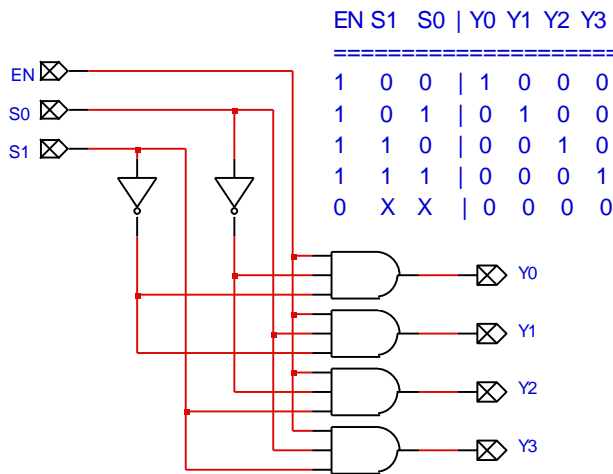

Figure 4. 2-to-4 decoder
A *decoder* is a switch used to “turn on” exactly one item out of a set. A decoder made from four 3-input AND-gates is shown in Figure 4. The input signals are an enable signal  $EN$  and two select lines,  $S0$  and  $S1$ . Since the enable signal is directly wired to all four AND gates, when  $EN=0$  the outputs are all inactive (0). On the other hand, when  $EN=1$ , the select lines are connected such that exactly one gate is chosen to be ON based on the value of  $S0$  and  $S1$ . For example, look at the AND gate connected to  $Y1$ . Its top input (like all the other gates) is connected to  $EN$ . The middle input is connected directly to  $S0$ , and the bottom input is connected to  $S1$  through an inverter. Thus,  $Y1 = \overline{S1} \bullet S0 \bullet EN$ . (The dots indicate logical AND function.). That is,  $Y1$  is active when  $(S1, S0) = (0, 1)$  (binary representation of the number 1) and  $EN$  is active. The remaining gates are connected in a similar fashion so that they are active when the appropriate number is put on the select lines  $S0, S1$ .
The decoder design shown in Figure 4 is called a 2-to-4 (2:4) decoder because it has two select lines and  $2^2 = 4$  output lines. Decoders are usually referred to by size in this fashion ( $n$  to  $2^n$  decoders).
Notice that the outputs of the 74LS138 are *active low*; that is, unlike the 2-4 decoder example in Figure 4, the 74LS138 is built with NAND gates so that its active output is a 0 and all inactive outputs are 1’s. (In all digital circuits, it is important to check whether specific outputs or inputs
are active high or active low. Active low I/O will normally be indicated with an open circle, such as pins 4,5,7 and 9-15 on the '138 in Figure 4.)
A demultiplexer performs the inverse operation of a multiplexer: it takes a single input line and connects it to exactly one output line, all other output lines being inactive. If you take a look at the 2-4 decoder in Figure 4, you'll see that it also serves as a 1-4 demultiplexer when you use the EN line as the input signal. For example, suppose  $S1=1$  and  $S0=0$  so that output line  $Y2$  is selected and all other outputs are inactive. If  $EN=1$ , then output  $Y2$  is also 1. Conversely, if  $EN=0$ , then so is  $Y2$ . In other words, a demultiplexer and a decoder are exactly the same thing.